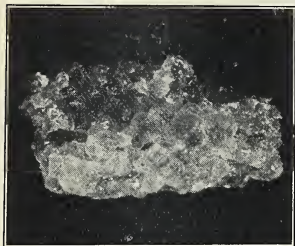

Fig. 98. Crystals of rock salt. Salt crystals usually assume a cubical form.
**Crystals.** Dissolve some salt and some sugar in separate dishes of water. Then evaporate the water in each over a slow flame until it dries up. Examine the salt that you have recovered under a magnifying glass. You will find that the small particles are not simply irregular masses, but they have a regular shape. Each little particle is a cube (Fig. 98). Sugar particles have a somewhat similar shape but they are not exactly cubes. Such natural regular forms are called *crystals*.